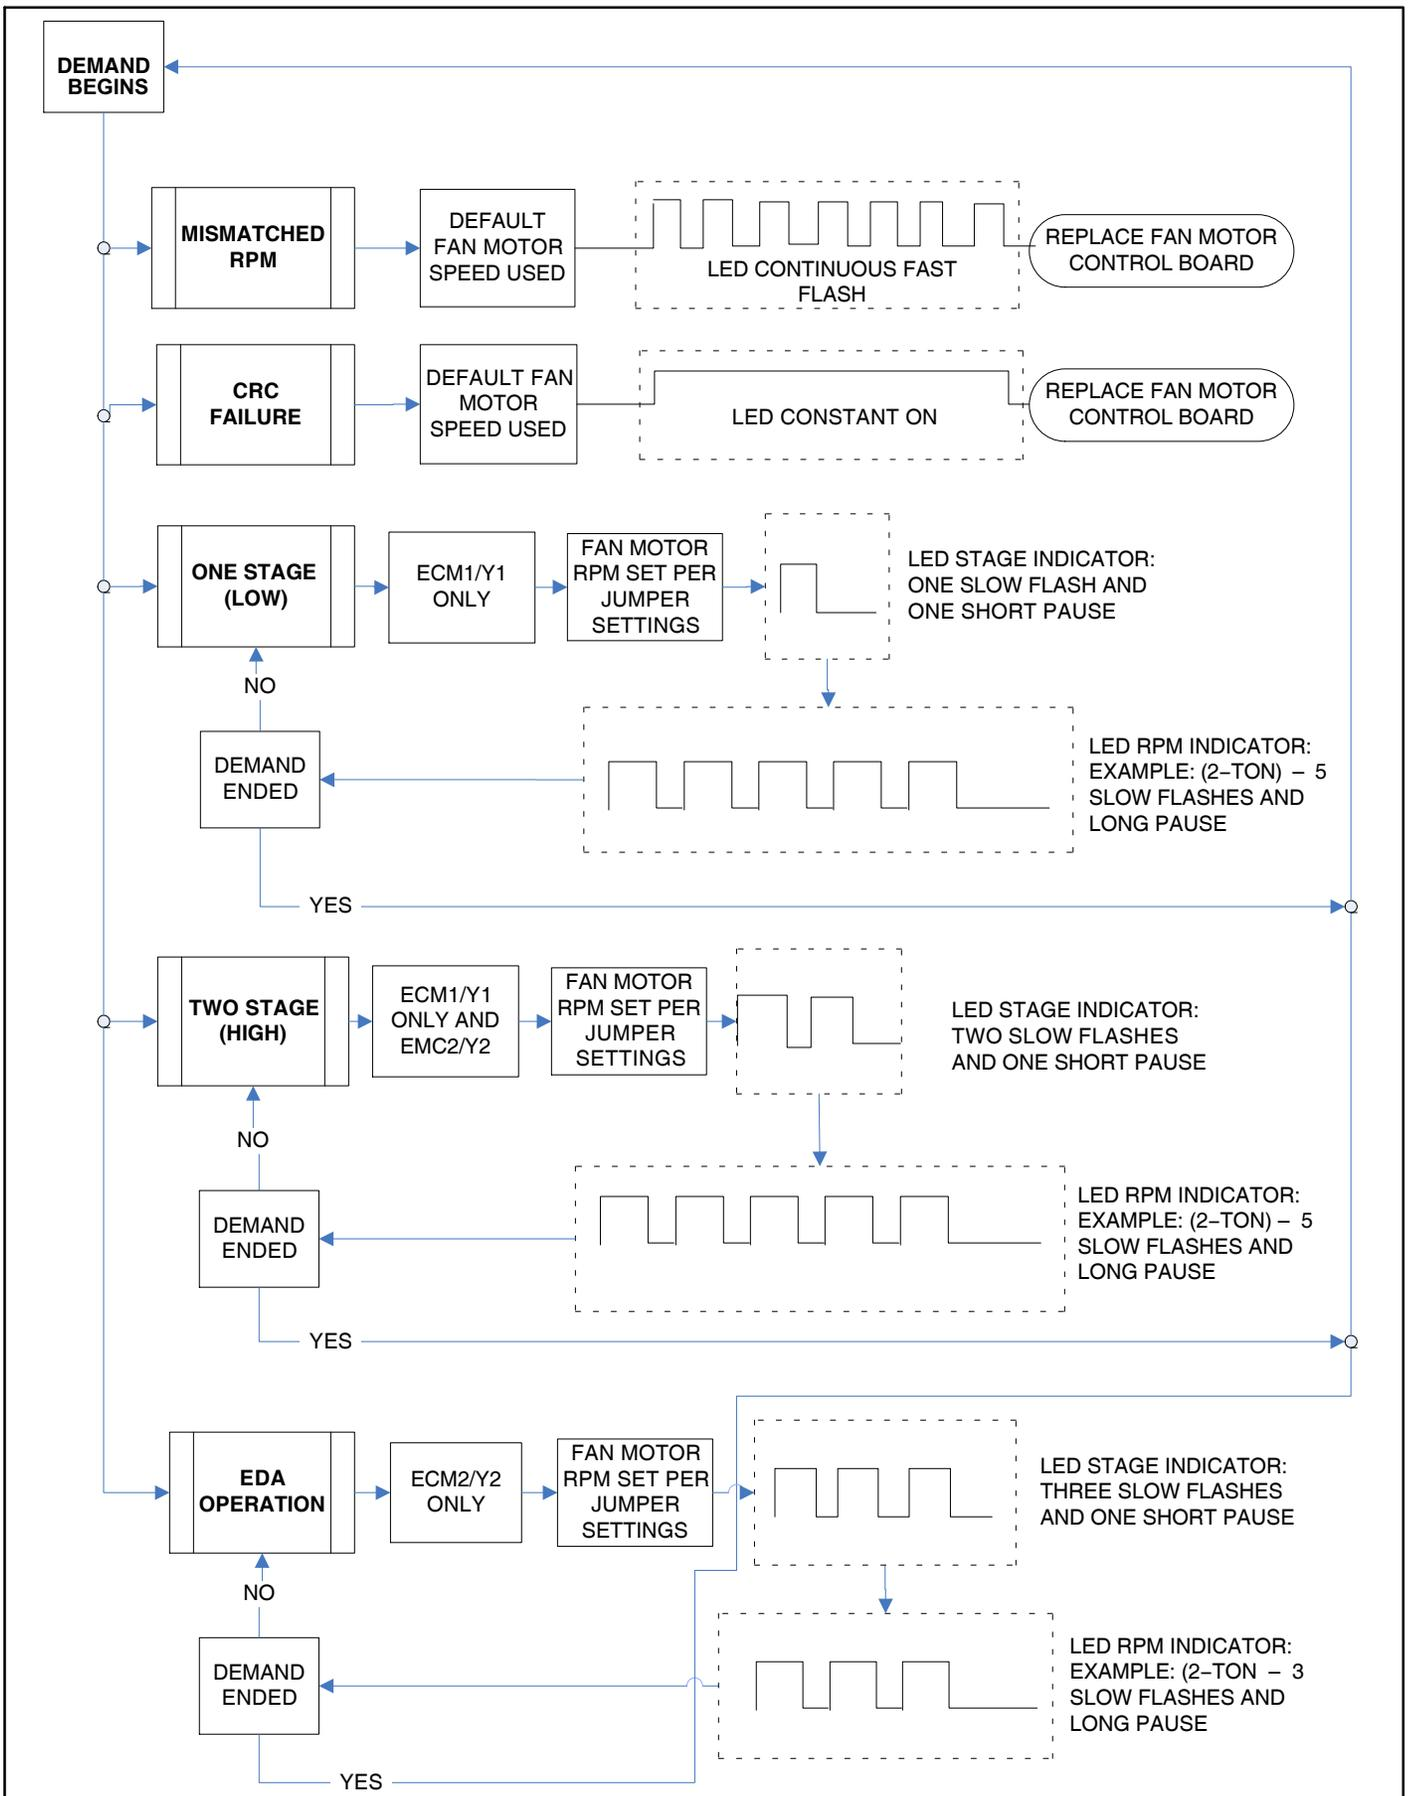

Figure 21. Fan Motor Control One/Two Stage and EDA LED Sequence of Operation — XC21-XXX-230-05 AND LATER
4. After the RPM indicator is displayed, there is a short pause. The sequence repeats if a thermostat demand is still present. See figure 21 for LED sequence. See table 12 for description of flash and pause durations.